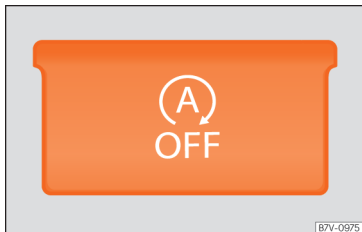

Fig. 233 Detailed view of the centre console: Start-stop operation button.
- To manually switch on/off the Start-Stop system, press the  button » **Fig. 233**.